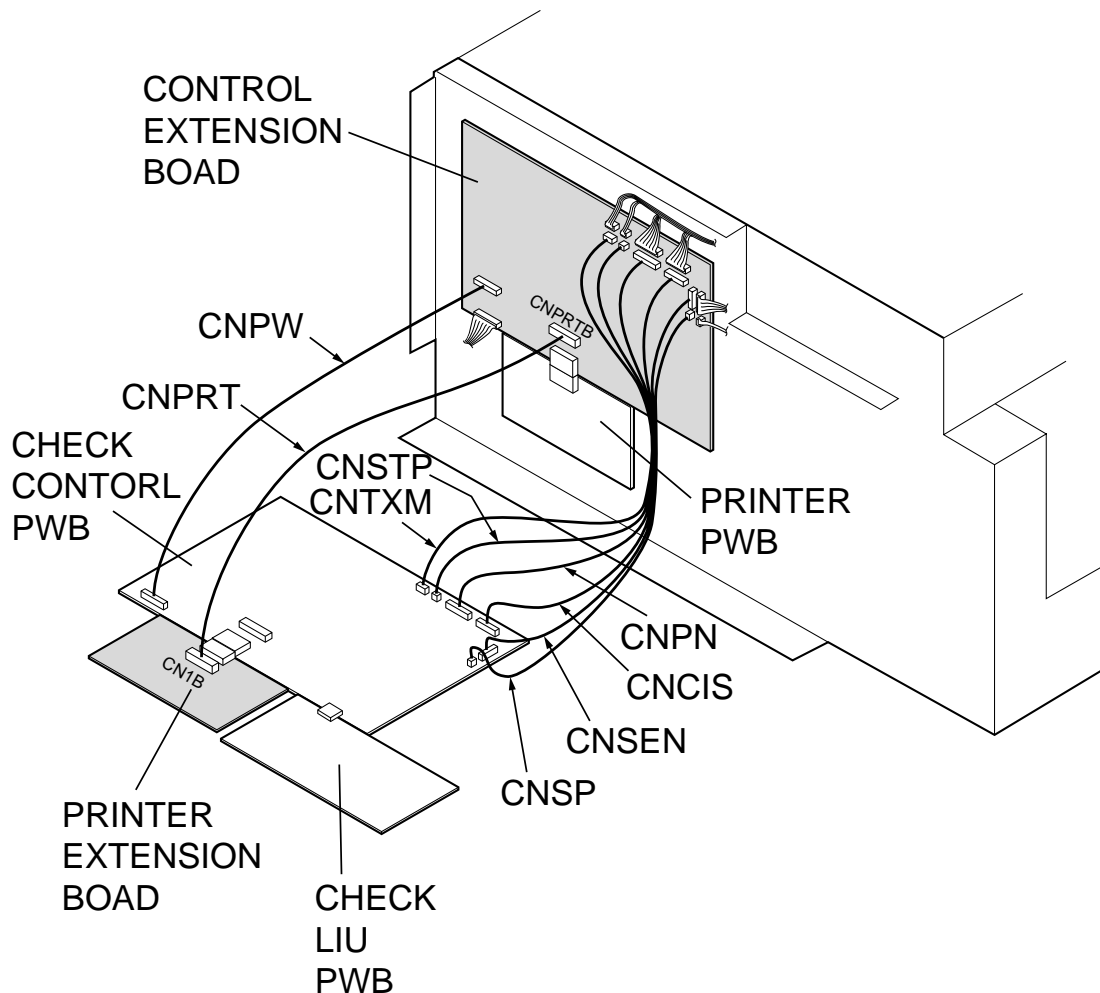

Fig. 1
- 3) Connect the extension cables to the connectors (B side) of extension board (Control-EX) as shown in Fig. 1.
- 1) Connect all cables to the connectors of extension boards and check PWBs as shown in Fig.1 on page 8-2